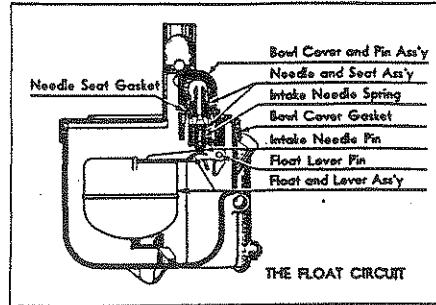

Fig. 2
- A. Group all parts controlling the gasoline level. (Fig. 2.)